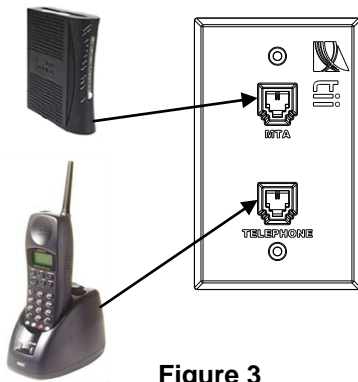

Figure 3
8. Connect the existing phone and Media Terminal Adapter (MTA) into their respective RJ-11 receptacle's on the front face plate (See Figure 3).